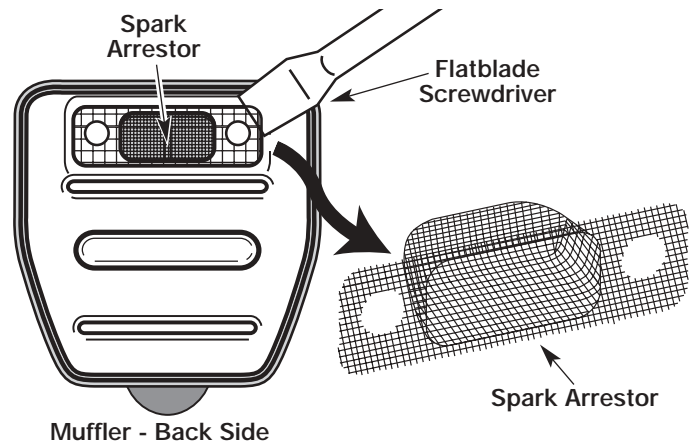

Fig. 26
4. Using a small flatblade screwdriver, carefully pry up the spark arrestor from the recessed hole (Fig. 26). Remove the spark arrestor from the muffler.
5. Clean the spark arrestor with a wire brush. Replace it if it is damaged or if it is impossible to clean thoroughly (Fig. 26).